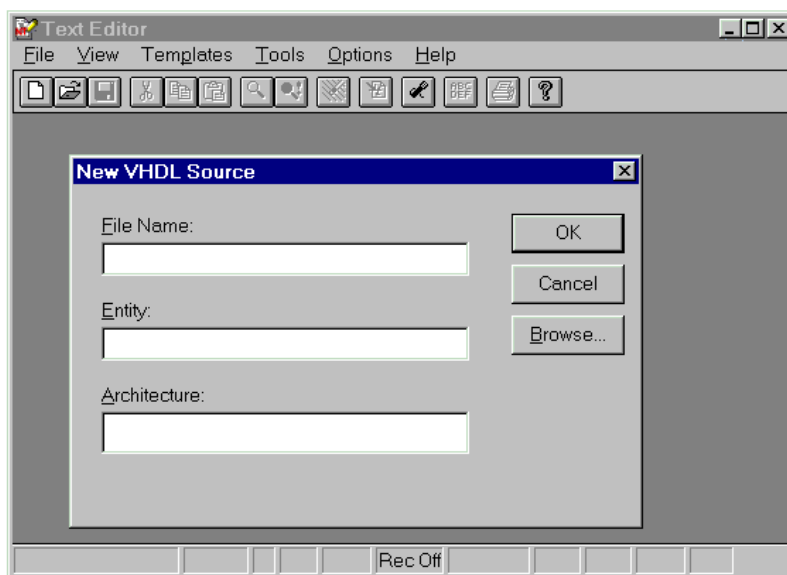

Figure 3-22. Text Editor Window with New VHDL Source Dialog Box
2. In the New Source dialog box, choose VHDL Module and click **OK**. The Text Editor window appears together with the New VHDL Source dialog box (Figure 3-22).